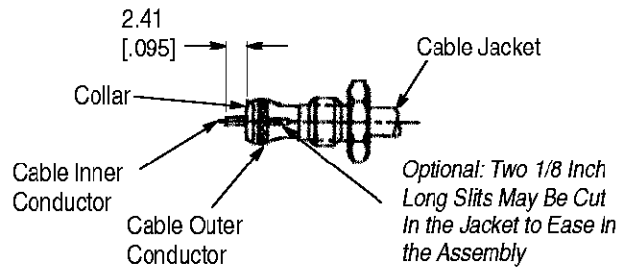

Figure 4
2. Slide the collar over the cable dielectric and under the cable outer conductor and cable jacket until the cable dielectric is flush with the face of the collar. See Figure 4.